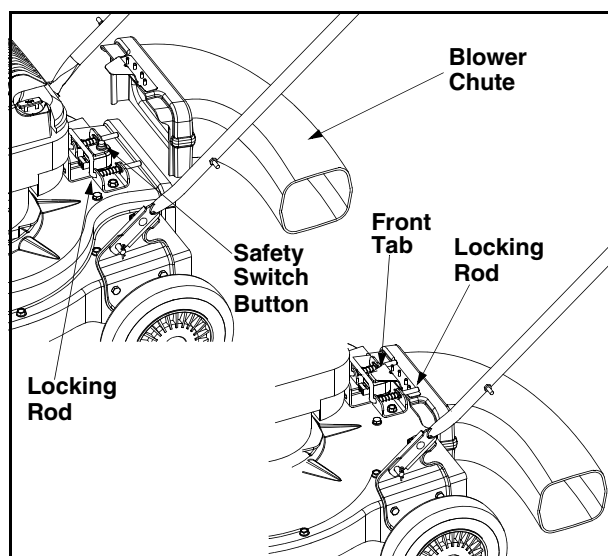

Figure 5
NOTE: The bag/chute switch button attached to the mounting bracket must be fully depressed by the tip of front tab on bag handle when securing the bag or engine will not start. See Figure 5.
- Grasp blower chute with one hand and slide locking rod on mounting bracket with other hand toward engine. Use the end of mounting bracket as leverage when sliding the locking rod. See Figure 5.
NOTE: The bag/chute switch button attached to the mounting bracket must be fully depressed by the tip of front tab on the blower chute or engine will not start. See Figure 5.
- Grasp blower chute with one hand and pull lock rod on mounting bracket with other hand toward engine to release. Refer to Figure 5.